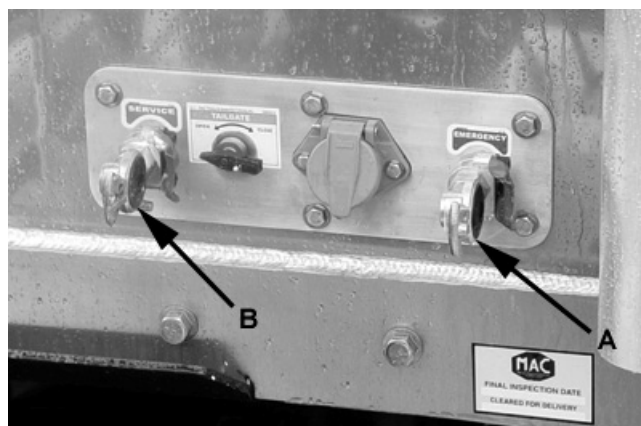

Figure 6-2 Disconnect Hoses And Electrical Connector
5. Disconnect the supply hose from glad hand (A), service hose from glad hand (B) and electrical connector. See figure 6-2.